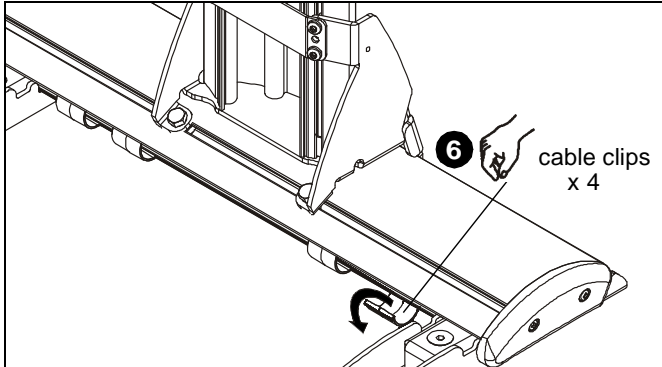

Figure 28
6. Open cable clips along bottom edge of wall bracket. (See Figure 28)